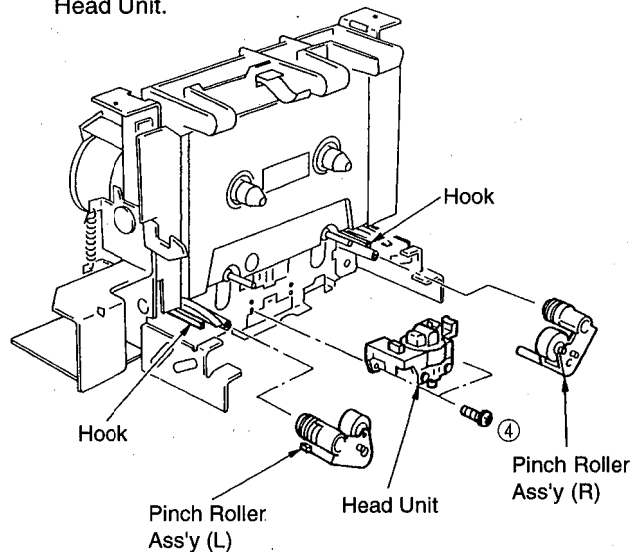

Fig. 4
Unhook at 1 place as shown in Fig. 4 and remove the pinch Roller.
Remove 2 screws ( ④ ) in Fig. 4 and then remove the Head Unit.
- a. Remove 2 screws ( ⑤ ) in Fig. 4.